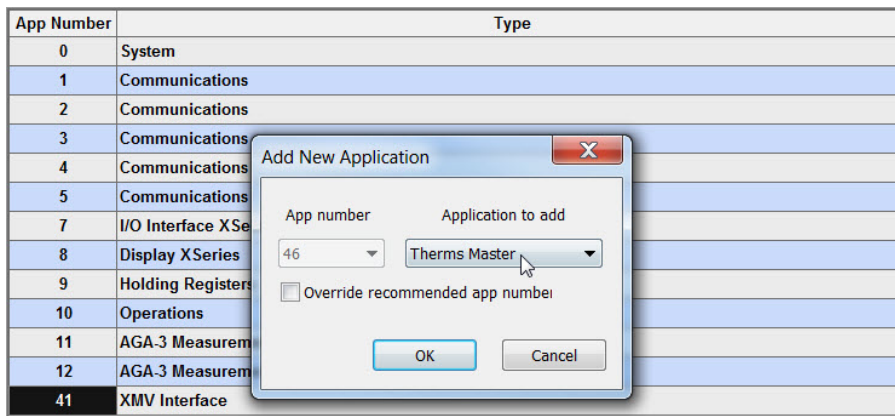

Figure 58. Add Therms Master application
- 4) Locate and choose the Therms Master application from the drop down list. If this is the first time the Therms application has been added it will automatically be assigned to *application number 46* (see Figure 58).